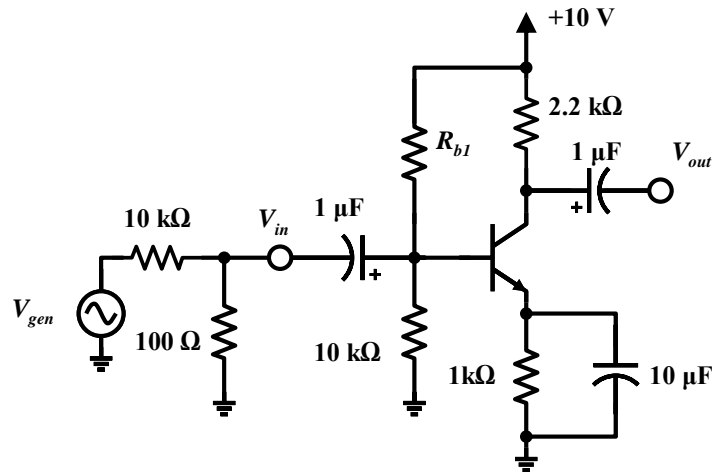

Figure 3-1 – Common-emitter amplifier (with input divider).
Figure 3-1 shows an AC-coupled common-emitter amplifier, similar to the CS amplifiers from the previous lab. We will use this circuit to explore the frequency response of the CE/CS amplifier topology. Since the circuit has a rather high gain, we have included a resistor divider network at the input to keep the input signal small.
- Using a 2N3904 in the circuit of Figure 3-1, first calculate the base resistance  $R_{b1}$  that is needed to bias the device at a collector voltage of  $V_c \approx 6 - 7V$ . Assume a nominal value of  $\beta \approx 200$  for this calculation (document your work in your lab report).
Note: it may be hard to see  $V_{in}$  directly on the scope since it is a small signal. If so, using signal averaging on the oscilloscope may help. Another alternative is to temporarily increase the input signal until  $V_{in}$  is easily measurable and the step-down ratio of the input voltage divider can be determined accurately (for example, in Figure 3-1 the input divider reduces the input signal by a factor of 100 nominally). From that point on you can just observe  $V_{gen}$  on the scope and apply your measured scaling factor to indirectly determine  $V_{in}$ .
In your lab report, use the measured data to create a Bode plot of the gain-frequency response of the amplifier in Figure 3-1.